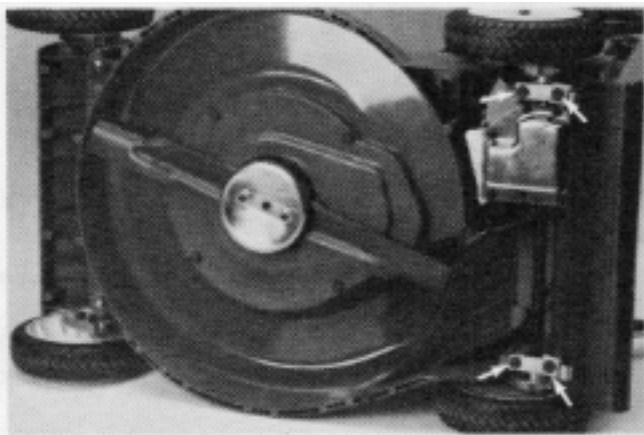

Figure 64
8. Turn the mower onto its right side and remove the four flanged head self-tapping screws securing the end caps to the housing. Do not remove the transmission at this time. See Figure 64.